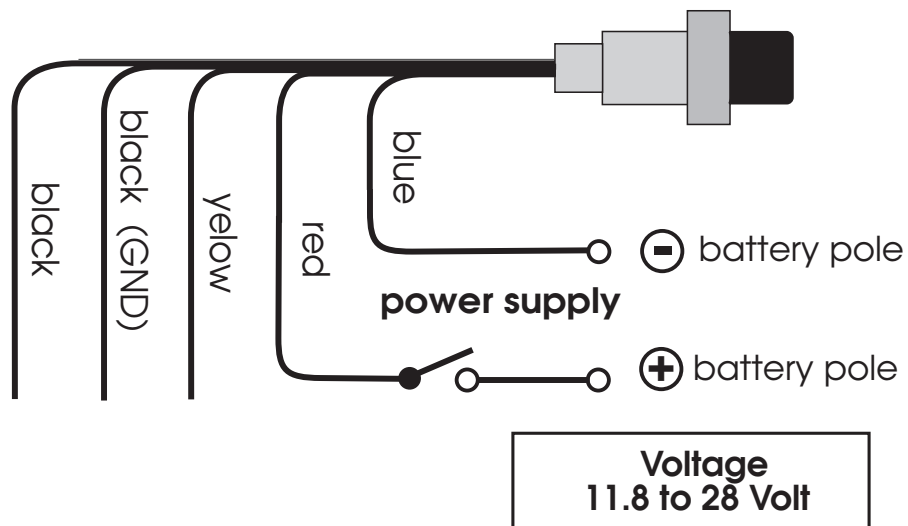

Fig. 2
2.1. Lead the cable set from the instrument to connection spots according to figure 2.